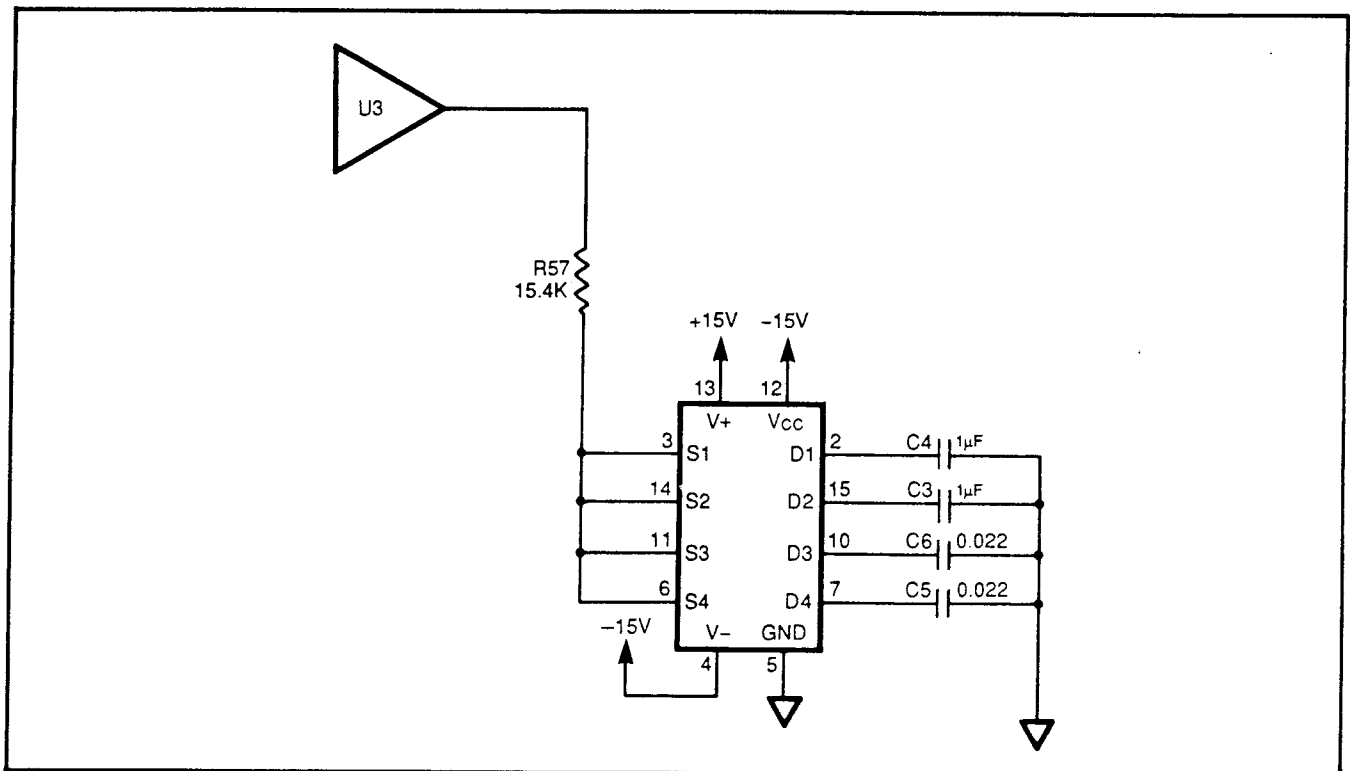

Figure 8-32. Smoothing Circuitry
- e. Smoothing. The smoothing function provides a stable, jitter-free CRT display. The smoothing circuitry is shown in Figure 8-32.